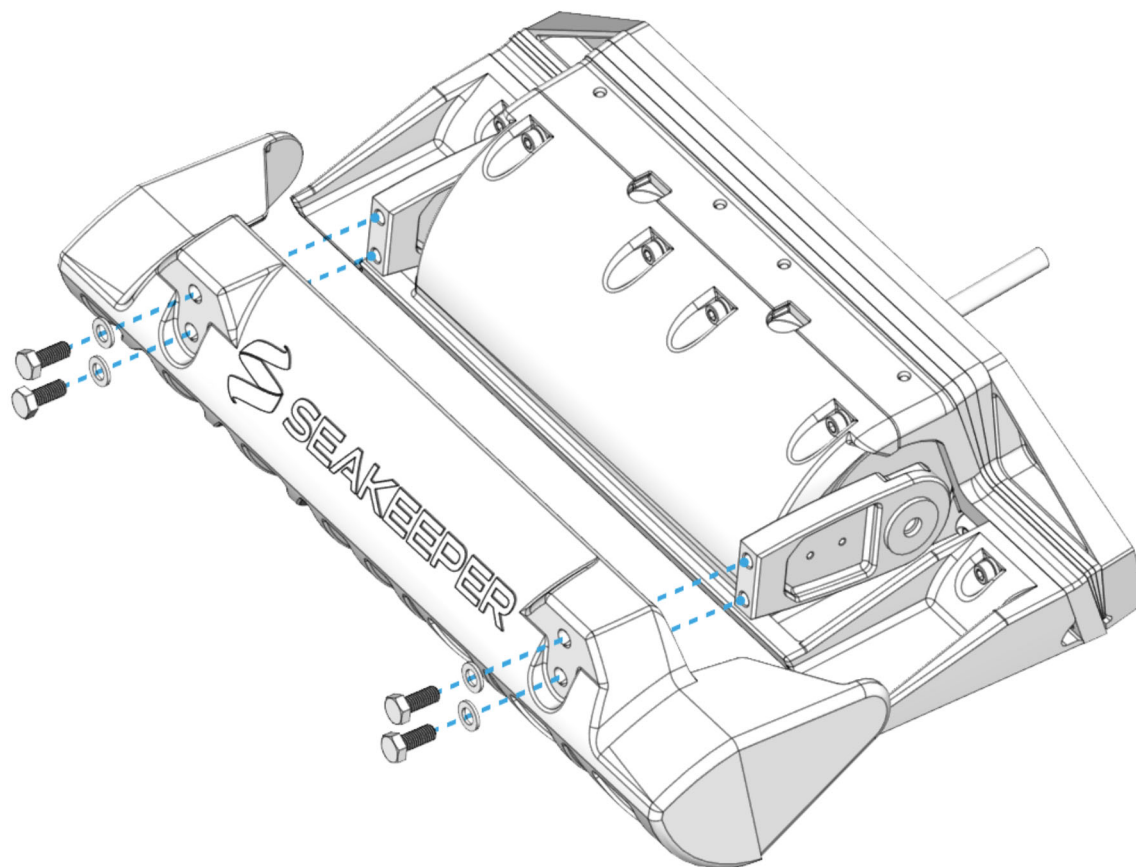

Figure 64 – Blade Installation
11. Install the Blade to the Actuator Arms using the four (4) M8-1.25×20 mm screws and their washers. Torque these four (4) bolts to 80 in-lbs (9.0 N-m) in an 'X' pattern (Figure 64 – Blade Installation).